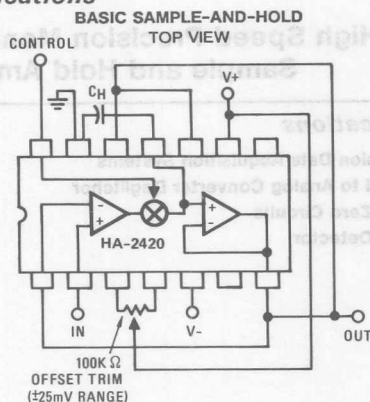

FIGURE 6.
The offset voltage of the HA-2420/2425 may be adjusted using a 100kΩ trim pot, as shown in Figure 6. The recommended adjustment procedure is:
- Figure 6 shows a typical unity gain circuit, with Offset Zeroing. All of the other normal op amp feedback configurations may be used with the HA-2420/2425. The input amplifier may be used as a gated amplifier by utilizing Pin 11 as the output. This amplifier has excellent drive capabilities along with exceptionally low switch leakage.